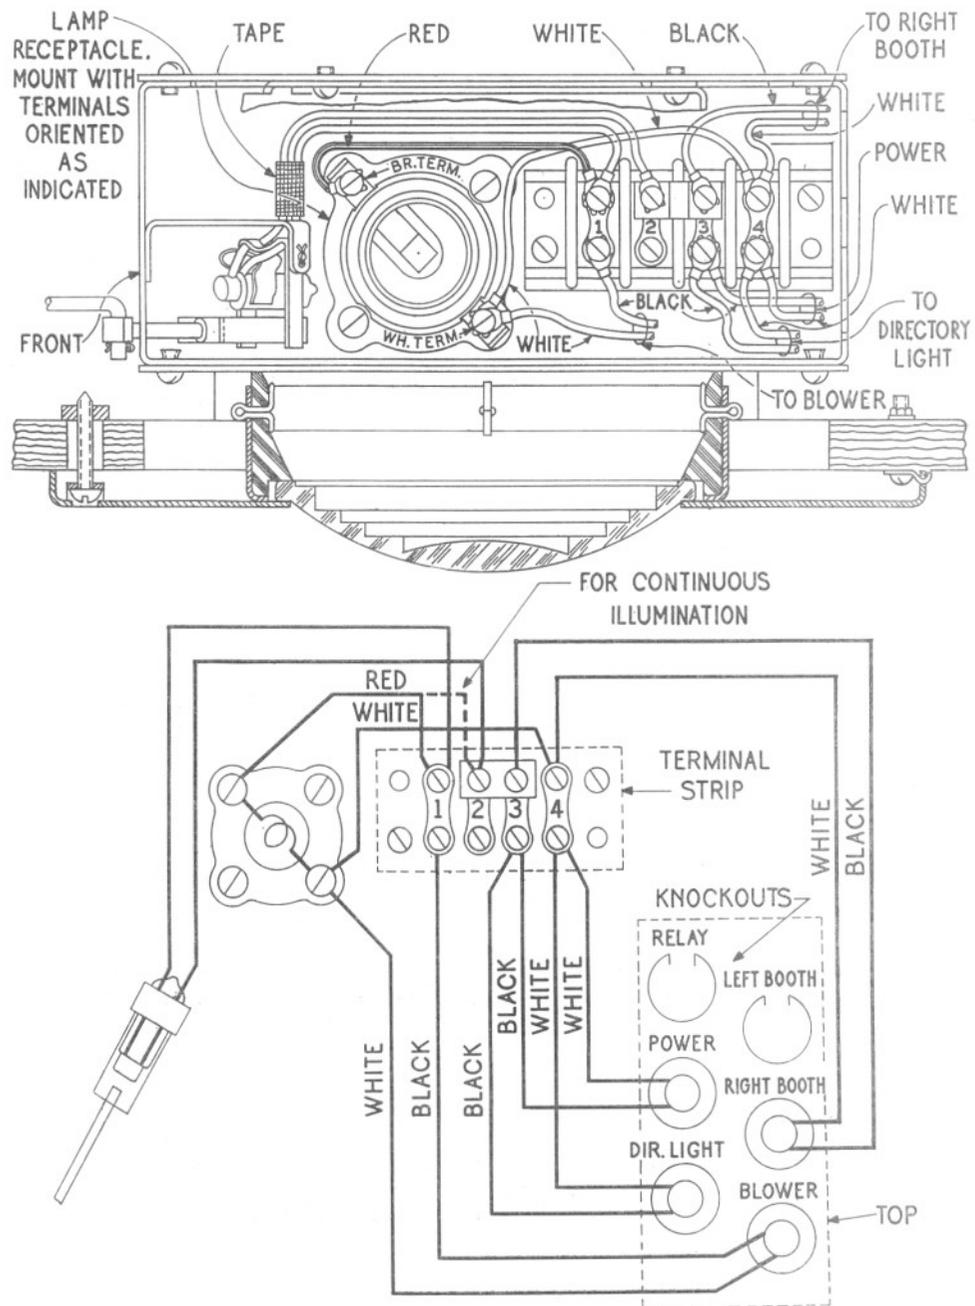

Fig. 11 - 4A Light Fixture for Four Cables
6.02 At the 4-type light fixture, make connections as shown in Fig. 11. Connect each cable shown only when required. Spade terminals shall be inserted squarely and to their full depth into the slot to provide maximum separation between terminals. The lamp is under control of the booth door. To obtain continuous illumination in the booth, connect red strap lead from lamp
4. Form the blower extension cable in the ceiling of the booth so that it rests in the notch of the metal ceiling partition, and drop the socket end of the twist-lock connector through the small opening in the corner of the booth ceiling. Connect the other end of the cable to the light fixture as shown in Fig. 11.
5. Connect the cable from the underside of the light fixture in accordance with Fig. 11.